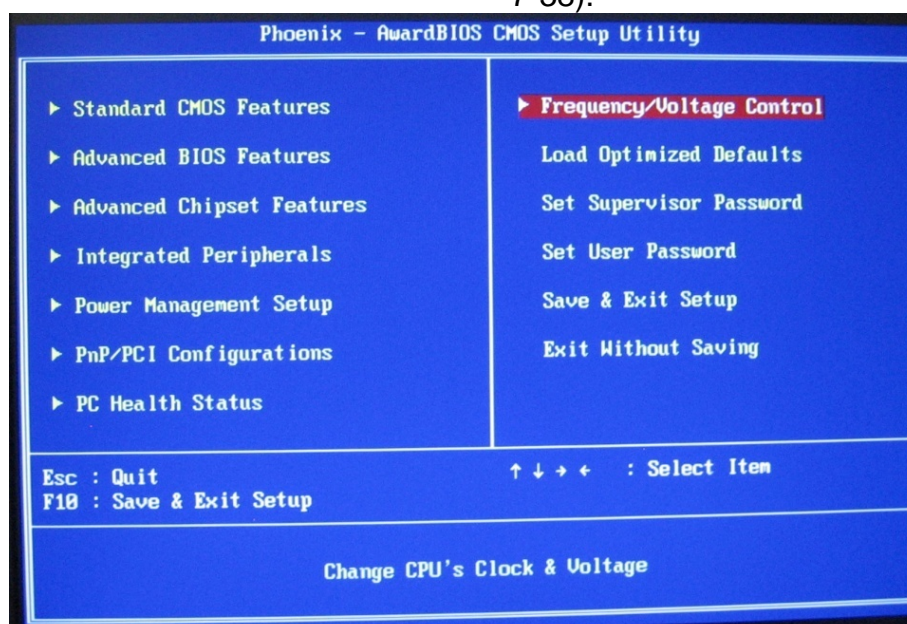

Figure 7-38 Frequency Voltage Control
28. Press **Escape** to return to the **Main BIOS** screen. Select **Frequency Voltage Control**. Press **Enter**. (Figure 7-38).